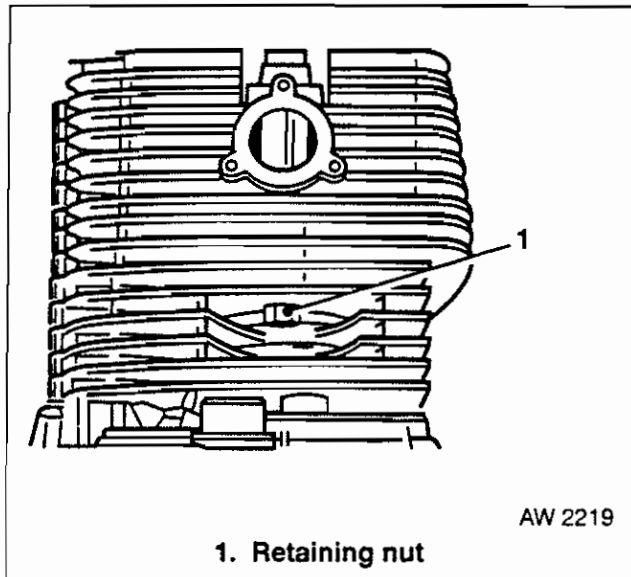
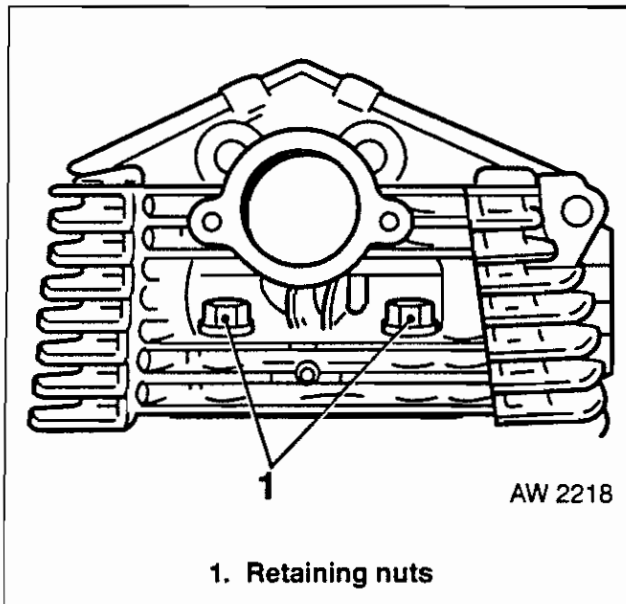
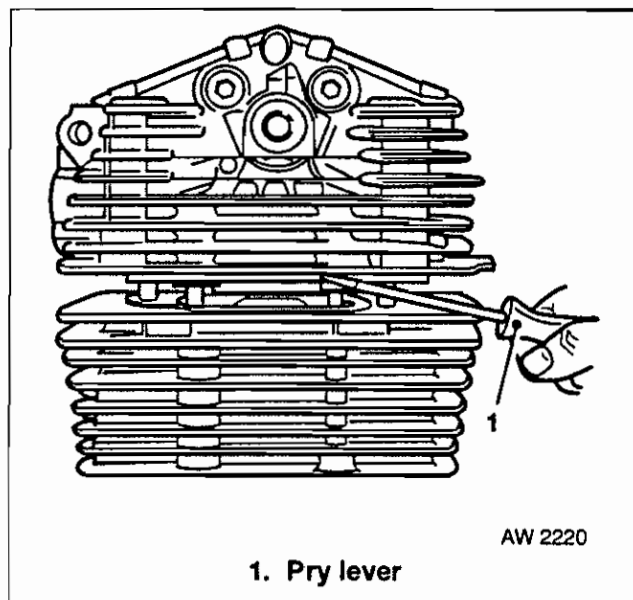

Fig 2.5 Cylinder Head Retaining Nut
Fig 2.6 Cambelt Side Cylinder Head Retaining
Fig 2.7 Cylinder Head Removal
c. Undo the 2 – 8M lower head securing studs (Fig 2.5 refers) then diagonally release the 4 – 10M cylinder head securing nuts (Fig 2.6 refers), noting the position of the one capped nut (magneto side – intake end of head). Failure to use the capped nut in this position will result in oil leakage – the cylinder head will now be free to lift off, if stuck 2 pry levers can be used but make sure NO damage to the cylinder mating faces occurs (Fig 2.7 refers).